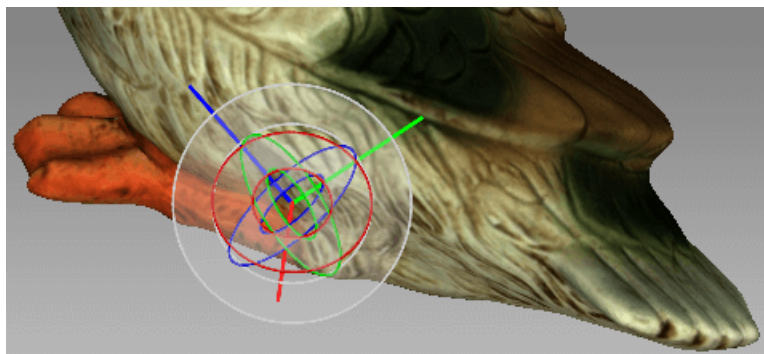

Figure 169: Rotation control
- Drag one of the three circles (see Figure 169) to rotate the object. Hitting the key that corresponds the required axis (X, Y or Z) will hide the controls for the other axes.